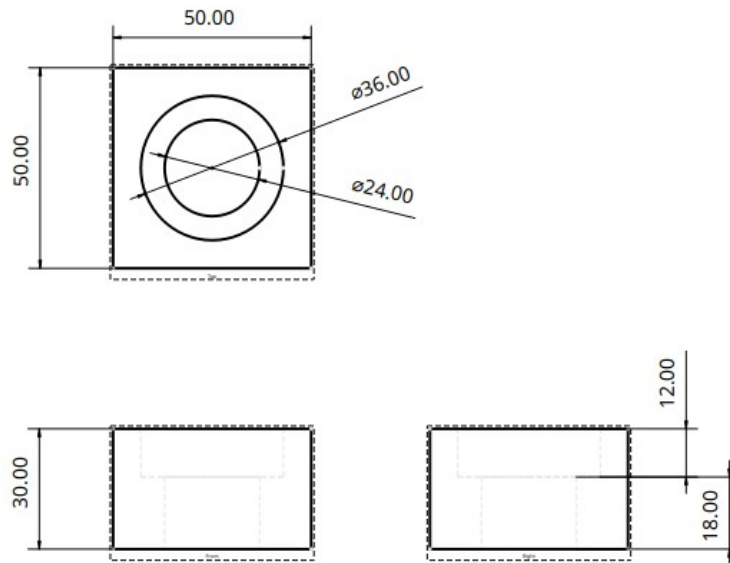

Figure 1: Mechanical Drawing
1. Note: we used the diameter because we know from the Figure 1: Mechanical Drawing that the hole through the center of our lump is to be 24mm.